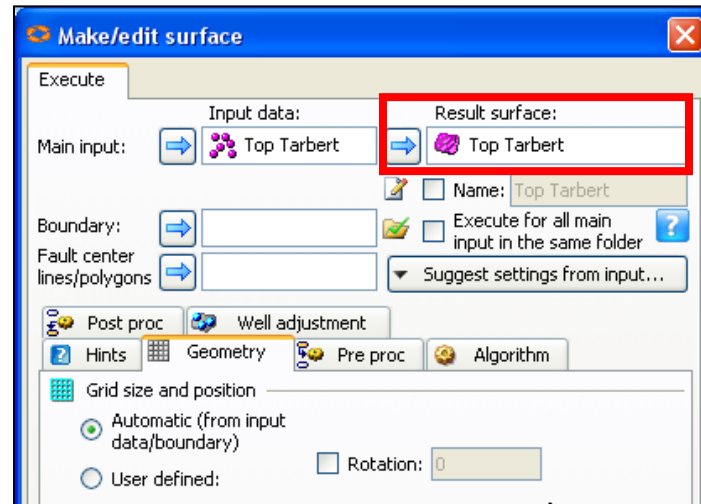

Fig.9.2: The Make/edit surface after adding the **Top Tarbet** for both Main input
3. Press **Apply**. A surface will be created in **Result surface** as shown in Fig. 9.2.